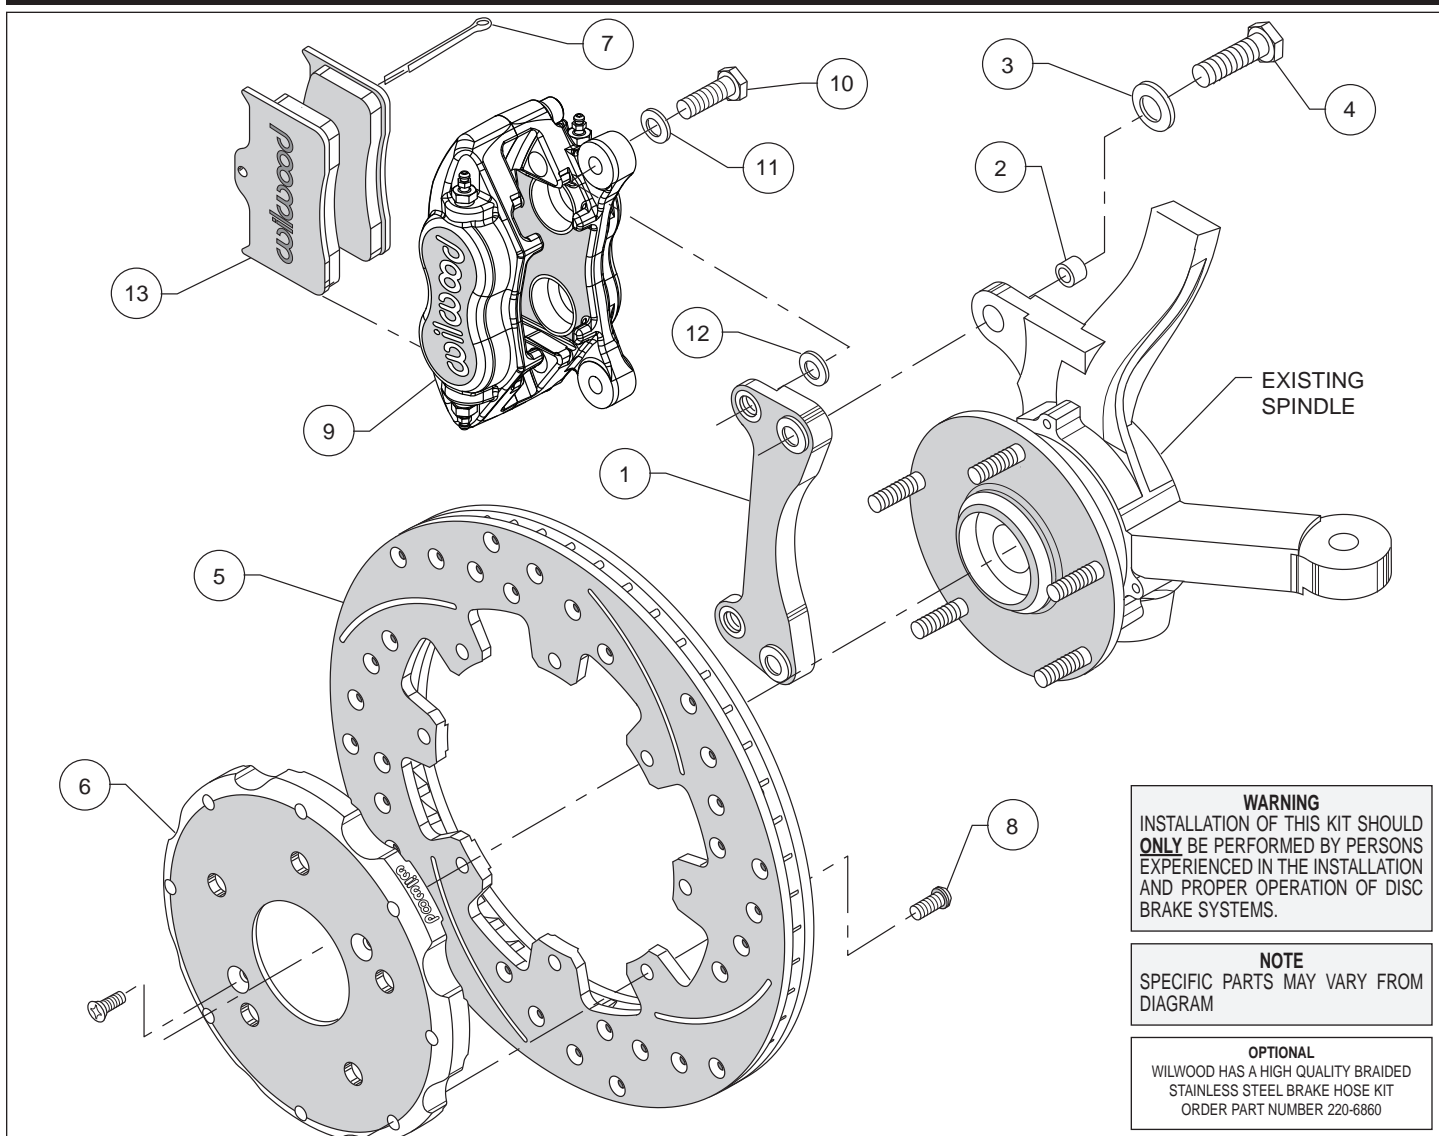
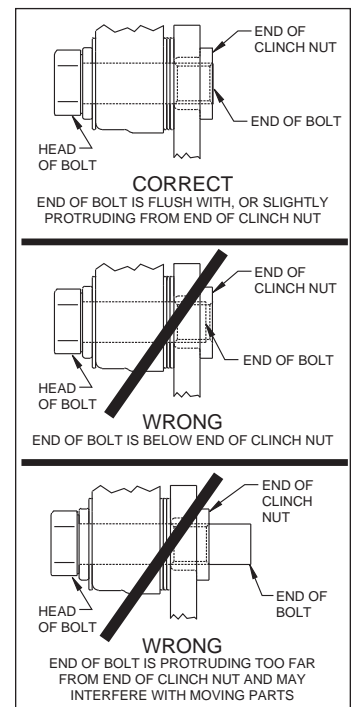

Figure 1. Typical Installation Configuration, Left Hand Application Shown
Figure 3. Clinch Nut Engagement Diagram
Assembly Instructions (numbers in parenthesis refer to the parts list and Figure 1 on the preceding pages): **CAUTION:** All mounting bolts must fully engage clinch nuts. Be sure to check that all bolts are either flush or protruding through flanged side of clinch nut after shimming, Figure 3.
- Insert one sleeve (2) into each hole of the spindle “ears”, Figure 1. Orient the caliper mount bracket (1) as shown in Figure 1, and install using bolts (4) and washers (3). Ensure that the flanged heads of the clinch nuts in the bracket are facing outboard, Figure 1. Temporarily tighten the mounting bolts. **NOTE:** The bracket must fit squarely against the mount bosses on the upright. Inspect for interference from casting irregularities, machining ridges, burrs, etc. Remove bolts one at a time, apply red *Loctite*® 271 to the threads and torque to 60 ft-lb.
- Orient the rotor (5) and the hat (6) as shown in Figure 1 and Photo 1. Attach rotor to hat using bolts (8). Using an alternating sequence, apply red *Loctite*® 271 to the threads, and torque to 25 ft-lbs.
- **NOTE:** Please reference the caution statement at the beginning of the assembly instructions. Mount the caliper (9) onto the caliper mounting bracket (1) using bolts (10) and washers (11), as shown in Figure 1. Initially place one .035" thick shim (12) on each bolt between the caliper and the bracket, Photo 2. Temporarily tighten the mounting bolts and view the rotor (5) through the top opening of the caliper. The rotor should be centered in the caliper, Photo 3. If not, adjust by adding or subtracting shims between the bracket and the caliper. Always use the same amount of shims on each of the two mounting bolts. **NOTE:** The end of each bolt must be flush with or slightly protruding from the head of the clinch nut, as shown in Figure 3. If necessary place spare shims between washer (11) and caliper mounting ear to achieve the proper clinch nut engagement. Once the caliper alignment and clinch nut engagement are correct, remove the bolts one at a time, apply red *Loctite*® 271 to bolt threads, and torque to 40 ft-lb.